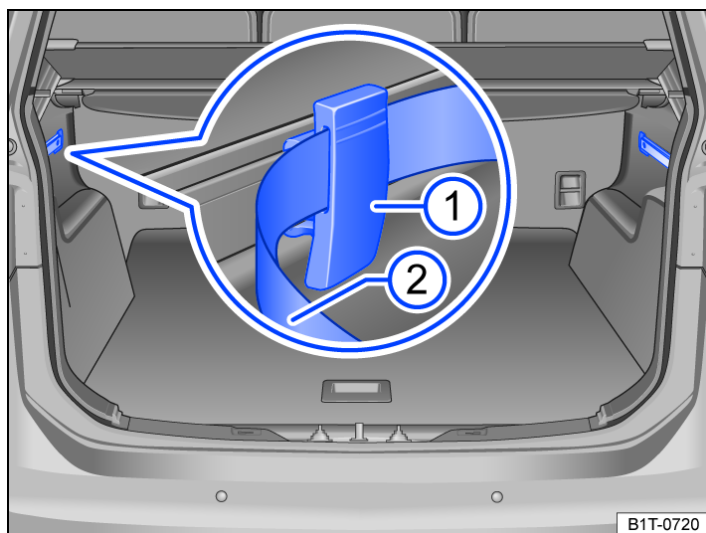

Fig. 1 In the luggage compartment: Rail system with rails, sliding fixing elements and a securing strap.
- Sliding fixing elements → *fig. 1* ①.
- Securing straps which can be fixed to the rails → *fig. 1* ②.
1. With the grooves facing upward → *fig. 1*, slot the fixing element ① into the rails from above and press down.